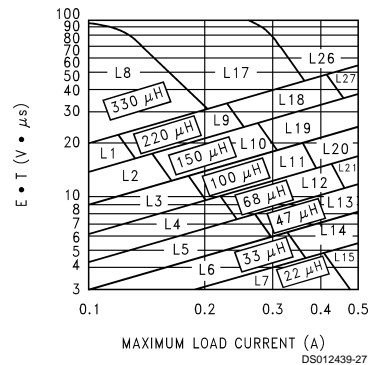

FIGURE 7. LM2594/LM2594HV-ADJ
B. Use the $E \cdot T$ value from the previous formula and match it with the $E \cdot T$ number on the vertical axis of the Inductor Value Selection Guide shown in *Figure 7*.
D. From the inductor value selection guide shown in *Figure 7*, the inductance region intersected by the $35 \quad (V \cdot \mu s)$ horizontal line and the $0.5A$ vertical line is $150\mu H$, and the inductor code is L19.